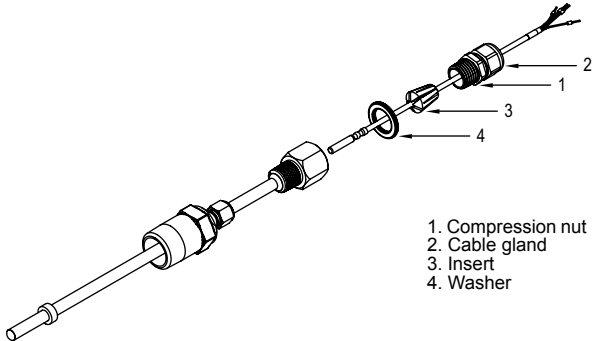

Figure 14: Thermowell assembly with PG gland
### Cable Gland (PG 16) Thermowell (refer to Figure 14 below)
1. Remove compression nut (1) by unscrewing from cable gland (2).
2. Remove insert (3) from the cable gland (2).
3. Route the RTD through compression nut (1) and cable gland (2), then into the insert (3) and washer (4).
**Note:** Ensure insert (3) is oriented correctly, as shown in Figure 14 below.
6. Screw the cable gland (2) into the thermowell.
7. Tighten the compression nut (1) onto the cable gland (2) to 30 in/lbs.